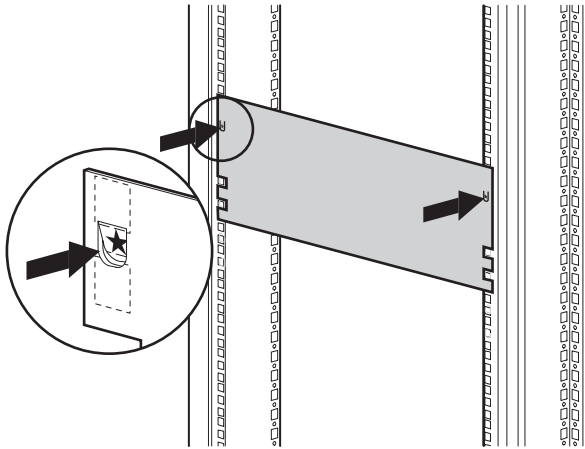

Figure 2-2. Library template
1. Use the template that shipped with the library to mark the location of the mounting hardware on the mounting rails of the storage cabinet (see Figure 2-2).